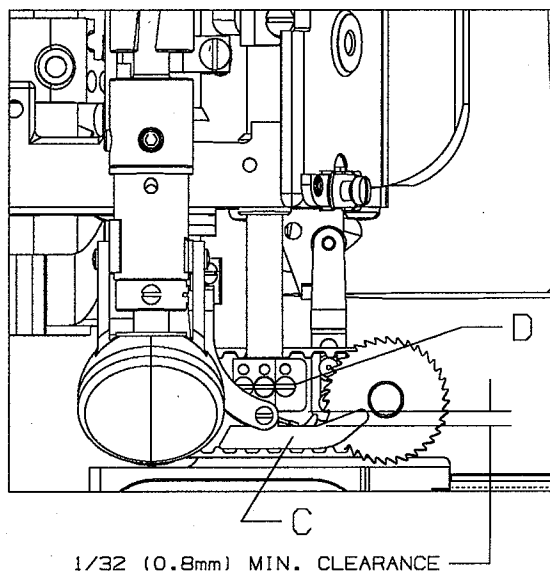

Fig. 1
Turn air supply off to presser foot air cylinder assembly (A). Loosen screw (E) on presser foot stop collar (F). Turn handwheel (G) until needle bar (D, Fig. 1) is at bottom of stroke. Lift presser foot (C, Fig. 1) up until there is $1/32"$ (0.8mm) clearance between needle bar (D, Fig. 1) and rubber washer (H) up until they contact underside of head. Retighten screw (E).